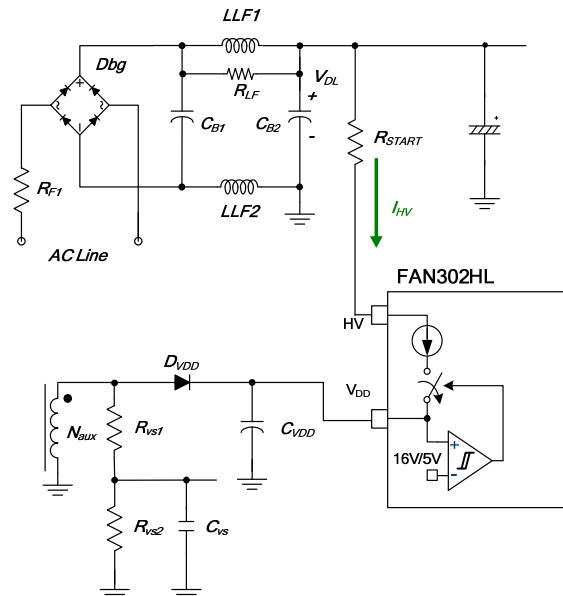
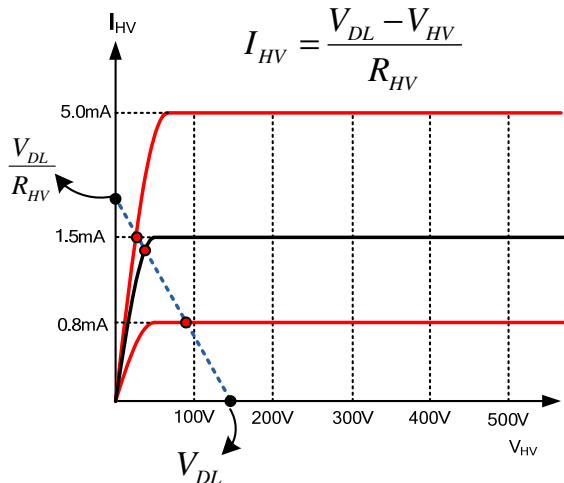

Figure 33. HV Startup Circuit
Figure 34. V-I Characteristics of HV Pin
Figure 33 shows the high-voltage (HV) startup circuit. Internally, JFET is used to implement the high-voltage current source, whose characteristics are shown in Figure 34. Technically, the HV pin can be directly connected to the DC link (V_{DL}). To improve reliability and surge immunity; it is typical to use about a 100k Ω resistor between the HV pin and the DC link. The actual HV current with given DC link voltage and startup resistor is determined by the intersection of V-I characteristics line and load line, as shown in Figure 34.